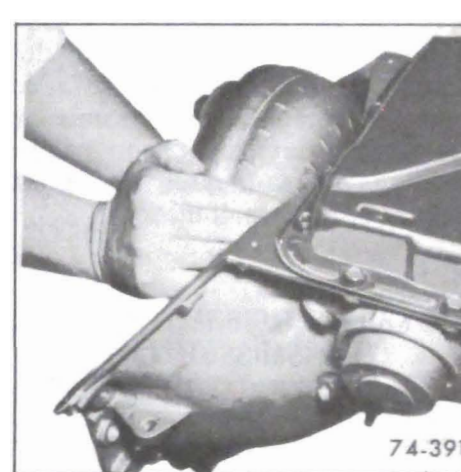

Figure 74-358
3. Install converter. See Figure 74-358.